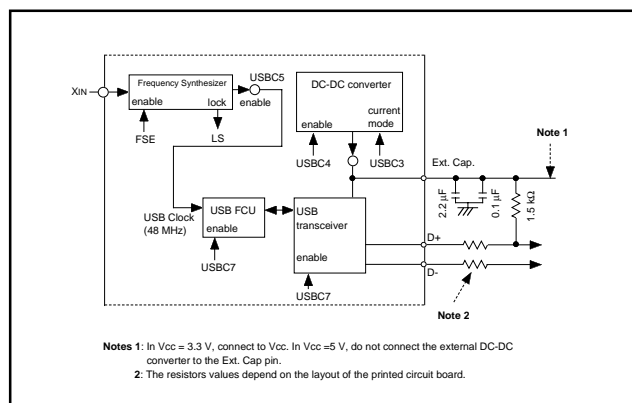

Fig.102 Peripheral circuit
•Connect a capacitor between the Ext. Cap. pin and the Vss pin. The capacitor should have a 2.2  $\mu\text{F}$  capacitor (Tantalum capacitor) and a 0.1  $\mu\text{F}$  capacitor (ceramic capacitor) connected in parallel. Figure 102 for the proper positions of the peripheral components.